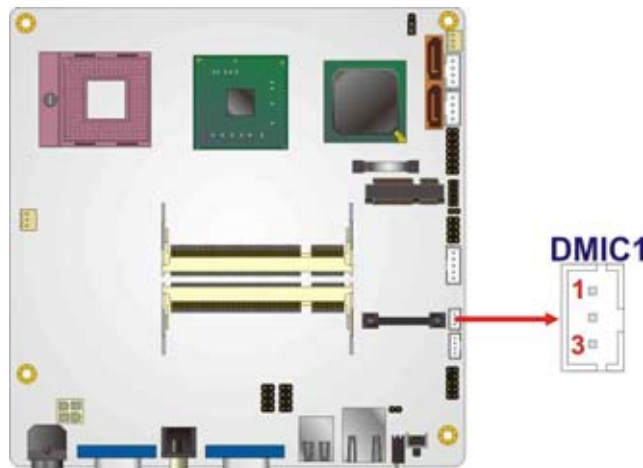

Figure 3-11: Microphone Connector Location
- CN Location:** See **Figure 3-11**